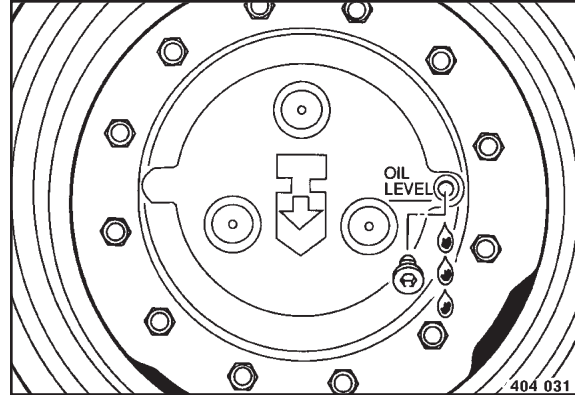

Fig. 132
- Move the drive wheel until the plug (Fig. 132) in the housing is in horizontal position.